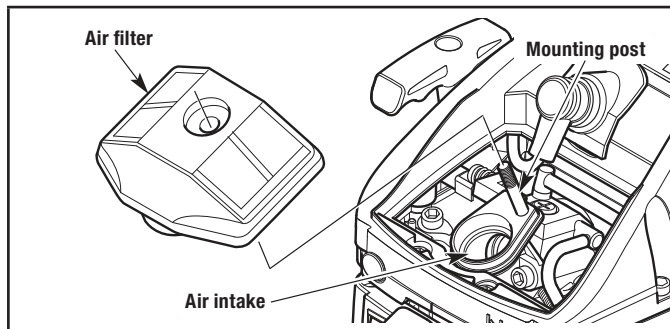

Figure 42
3. Remove the air filter (Fig. 42).
5. Reinstall the air filter onto the mounting post (Fig. 42). Make sure the opening in the air filter sits securely in the air intake (Fig. 42).